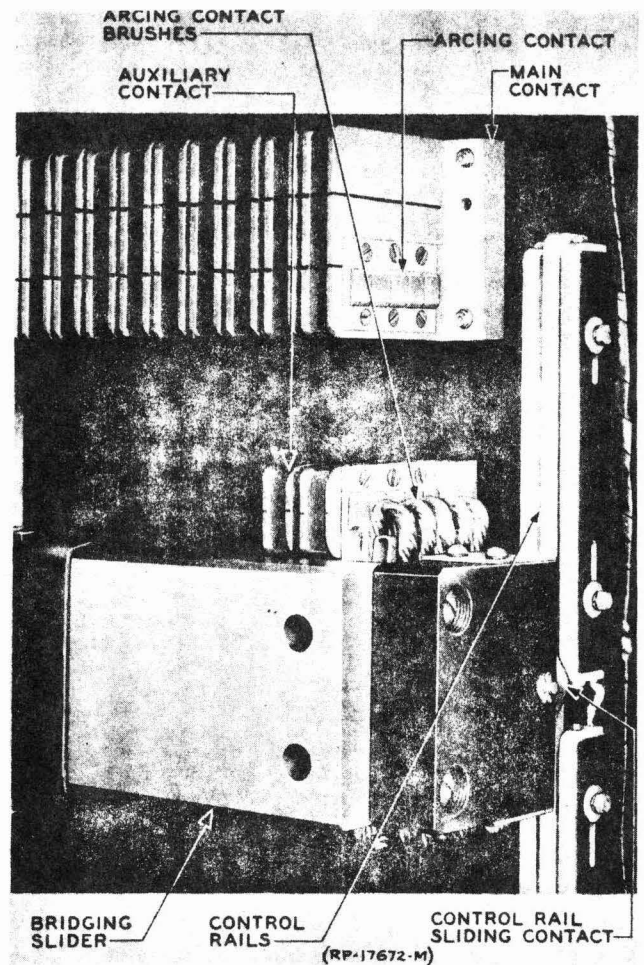

FIG. 3 KS-15624 ARCING CONTACTS (PAR. 7.4)
7.41 Contact surfaces shall be clean and free from buildups that might prevent reliable contact. Refer to Figure 3. No lubrication should be applied to arcing contacts.